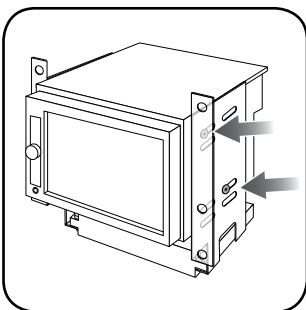

Fig. 8.2
10. Unbox the aftermarket radio and mount it to the brackets (use the holes marked "1" for proper placement of the new radio) . (Fig. 8.2)